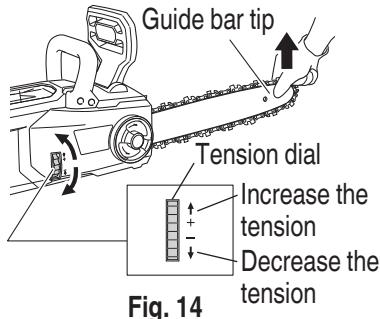

Fig. 14
5. **Adjusting the saw chain tension (Fig. 14)**